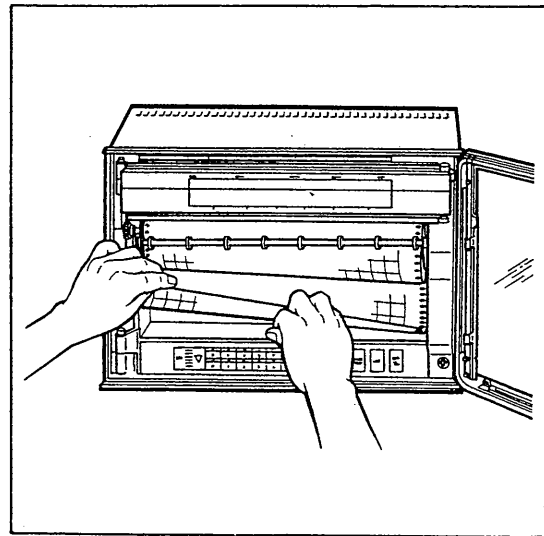

Figure 5-10.
- (3) Lift the chart paper and lift the battery cover (see Figure 5-10).